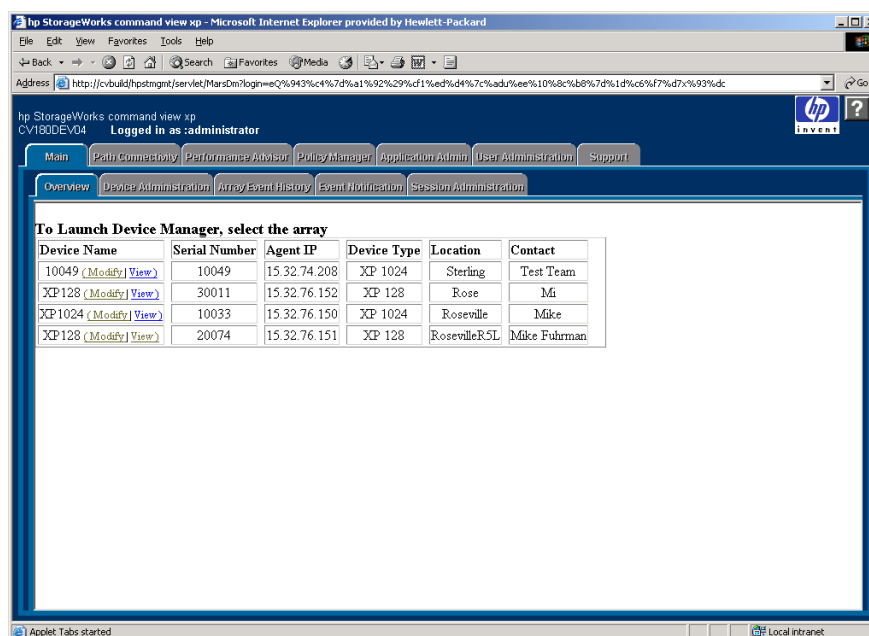

Figure 4: Overview/Launch screen
3. After the user name and password have been verified, the Overview (or Launch) screen is displayed (see Figure 4).